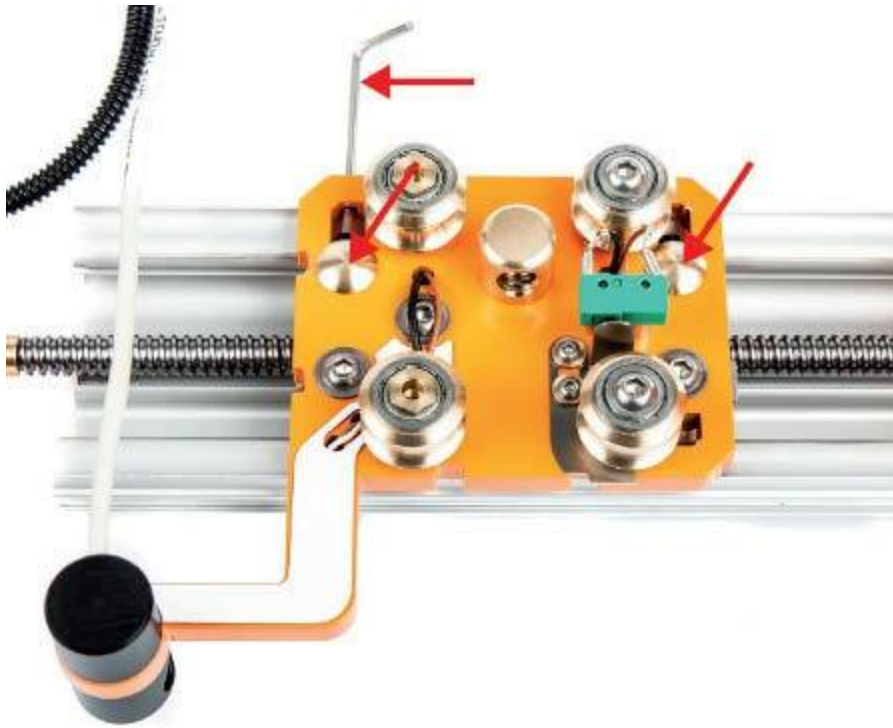

Fig. 2.27 *Fitting and adjusting the X-Z connector*
9. On the X-Z connector, loosen the roller holders indicated in figure 2.27 so that the rollers have sufficient play (1-2 mm) to be inserted into the linear rail. For this step, it is important that all the rollers have a little play.